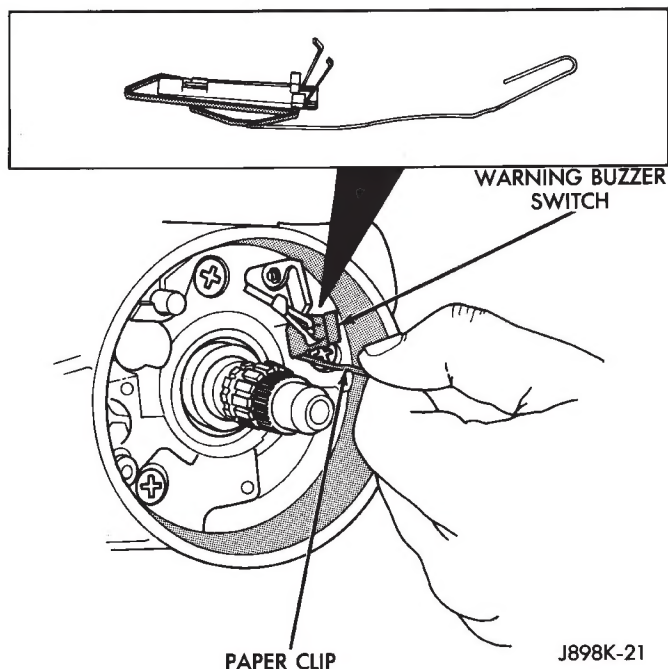

Fig. 24 Buzzer Switch Remove
(28) Pull turn/hazard switch out of column far enough to allow access to remaining screws.
(29) Insert ignition key in lock cylinder and turn ignition switch to ON position.
(30) Remove key warning buzzer switch and retaining clip with a paper clip inserted below retainer so that retainer is flattened (Fig. 24).